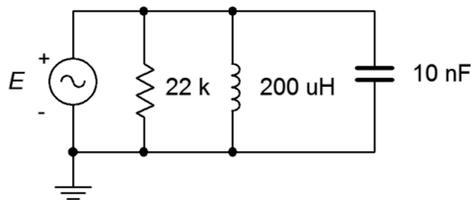

Figure 8.8
22. Given the circuit shown in Figure 8.8, determine the resonant frequency, system  $Q$  and bandwidth. If the source is 2 volts, determine the resistor, inductor and capacitor currents at resonance. Assume the inductor's coil resistance is  $2.5 \Omega$ .